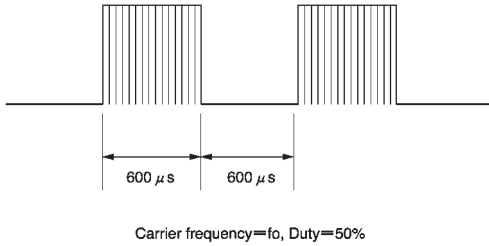
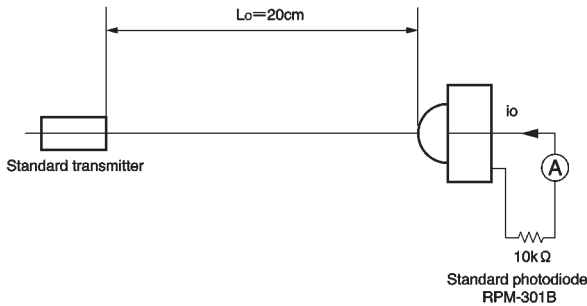
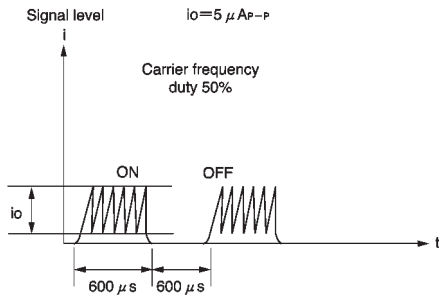

Fig.1 Transmit signal
Fig.2 Measurement of standard transmitter proofreading
Fig.3 Standard photodiode current
\*1 The burst wave form mentioned in fig.1 is to be transmitted from standard transmitter (fig.2).
When standard transmitter output the signal at Fig.1 standard photodiode output become  $i_o = 5\mu\text{A P-P}$  under the measurement condition Fig2, Fig.3.
(1) All characteristics of the receiver in this specification are specified by supplying burst wave form with ROHM standard transmitter (Fig.2).